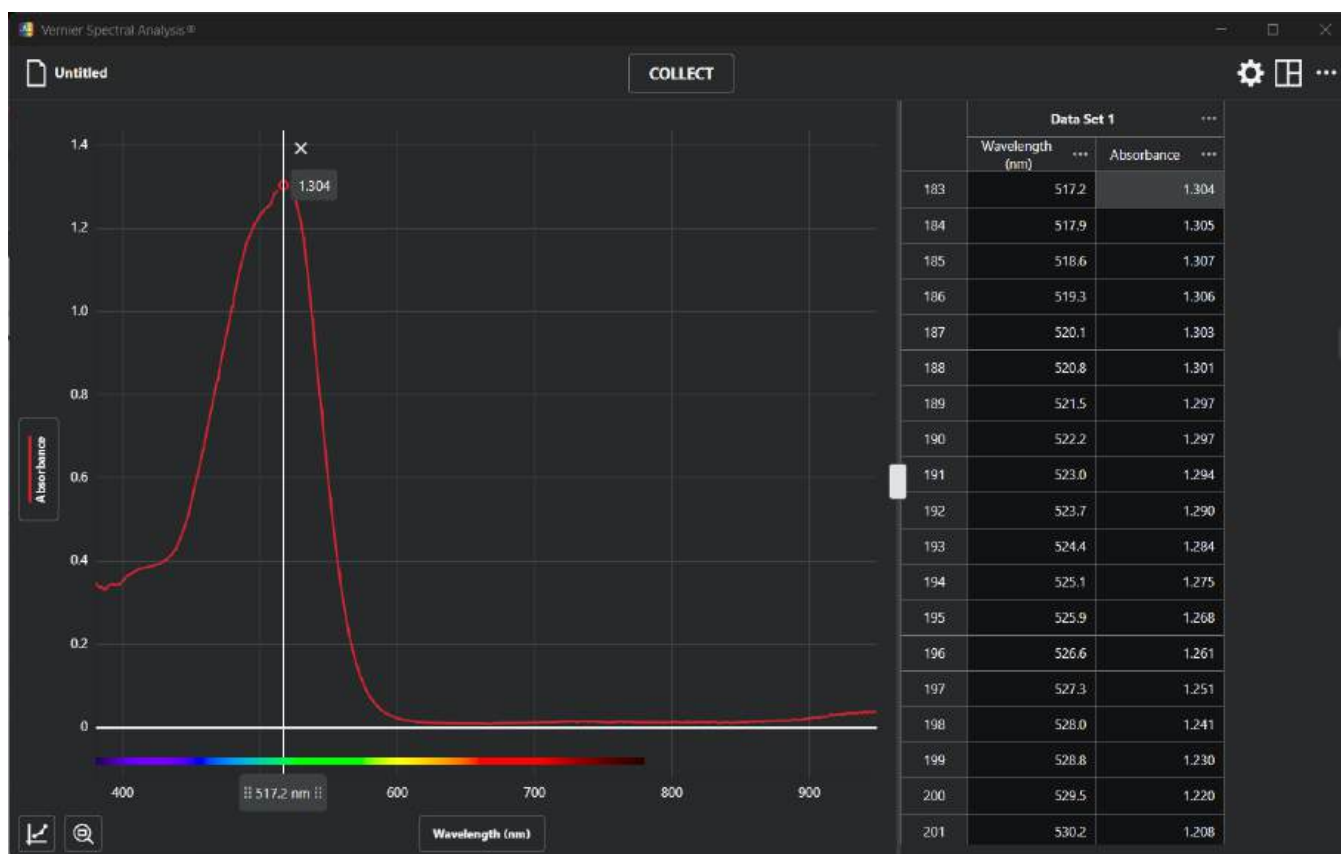

Figure 8: Screen shot of procedure to change spectrophotometer from full spectrum to single wavelength mode.
6. Select the maximum wavelength by clicking on the plot, as shown in Figure 8. **Ensure that this value is in a *smooth* part of the curve near the maximum absorbance.** Record that value below.